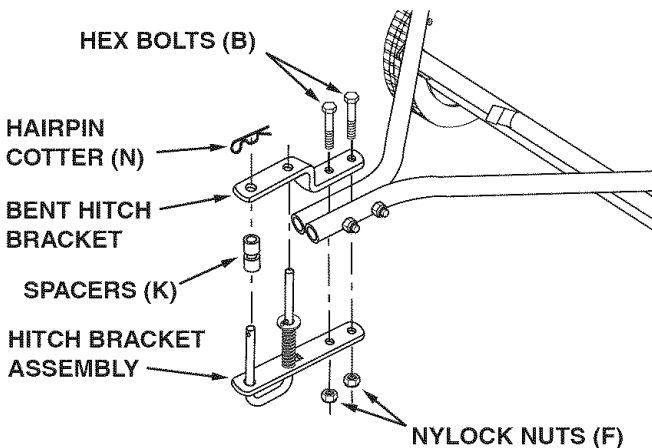

FIGURE 4
- If the tractor hitch is 10" or more above the ground, place the bent hitch bracket on top of the hitch tubes and place the hitch bracket assembly underneath the hitch tubes. Insert two hex bolts (B) through the brackets, with the rear hex bolt between the cross bolts in the hitch tubes. Secure the hex bolts (B) with two nylock nuts (F). See figure 4. **Do not tighten yet.**
- Assemble the two spacers (K) onto the hitch pin and secure the pin with the hairpin cotter (N). See figure 4.